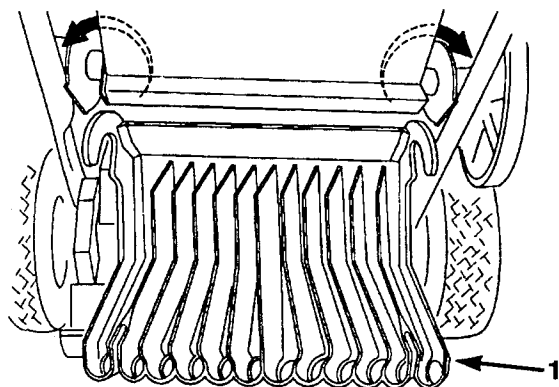

Figure 36
5. Install the chute (Fig. 36). Notice that the chute has a hook at both sides.
3. Rotate the chute up and slide it forward to disengage the hooks from the axle (Fig. 36).